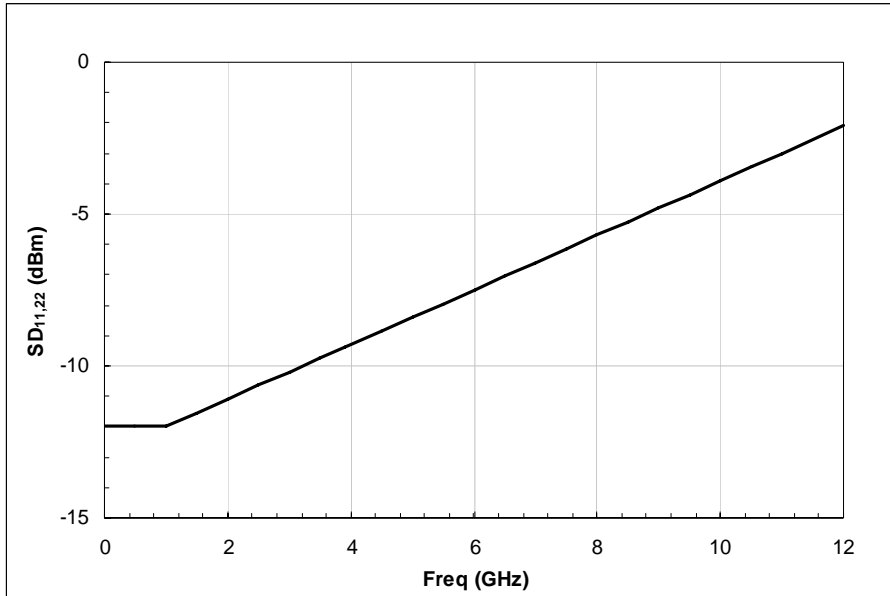

Figure 4. Maximum Transmitter Input and Receiver Output Differential Return Loss
2. Return Loss given by equation $SDD11(dB) = -12.9 + 0.9 \cdot f$, with f in GHz. See Figure 4
2. Differential Return Loss given by equation $SDD22(dB) = -12.9 + 0.9 \cdot f$, with f in GHz. See Figure 4